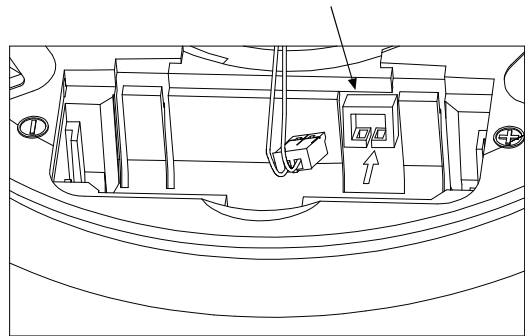

Figure 3b. Battery Connection for CR17450
- B.** Replace battery (see Figure 3a or Figure 3b according to the battery used).